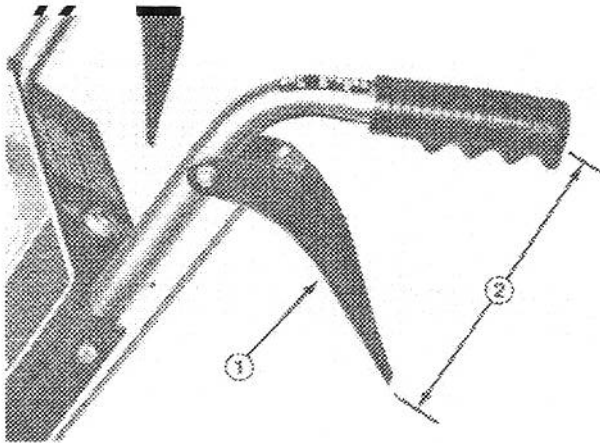

Figure 6
4. Check the distance between the center of the handle and top of the control lever (Fig. 6). Distance should be 7-1/2 inches (19.1 cm).